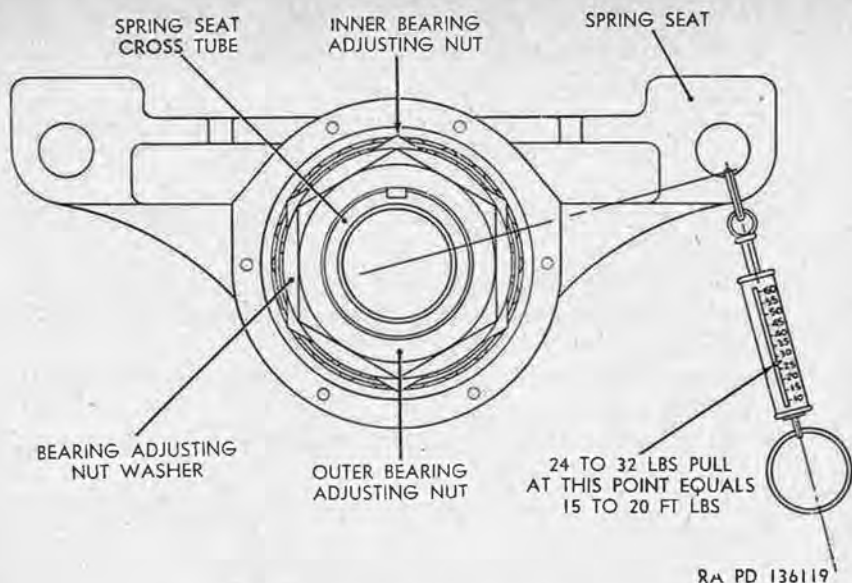

Figure 271. Spring seat bearing adjustment.
- (5) Place two jacks under spring, one on each side of spring seat, and raise spring clear of seat sufficiently to permit some rotation of spring seat around end of cross tube (fig. 271).
- (6) Hook end of a tester scale in clamp bolt hole (fig. 271) and pull downward on scale, noting pull required to rotate spring seat on cross tube. When bearings are correctly adjusted, pull on scale required to rotate spring seat is 24 to 32 pounds, which is equal to 15 to 20 foot-pounds preload on bearings. If spring-seat bearing adjustment is required, proceed as in (7) through (11) below. Otherwise, proceed as in (12) through (17) below.
- (8) Remove outer bearing adjusting nut (fig. 271) and bearing adjusting nut washer from cross tube.
- (9) Turn inner bearing adjusting nut (fig. 271) until a pull of 24 to 32 pounds on scale is required to rotate the spring seat.
- (10) Install bearing adjusting nut washer and outer bearing-adjusting nut on cross tube, and tighten nut. Check bearing adjustment ((6) above).
- (3) Remove outer bearing adjusting nut (fig. 271), bearing adjusting nut washer, and inner bearing adjusting nut from cross tube.
- (4) Pull spring seat with outer tapered roller bearing cone from cross tube, and remove cone from spring seat.
- (1) With inner tapered roller bearing cone in position on cross tube (fig. 271), install spring seat assembly on cross tube so that cone enters bearing cup in inner bore of seat.
- (2) Install outer tapered roller bearing cone on cross tube, inserting cone in bearing cup in outer bore of seat.
- (3) Install inner bearing adjusting nut on end of cross tube, and adjust bearings (b(6) above).